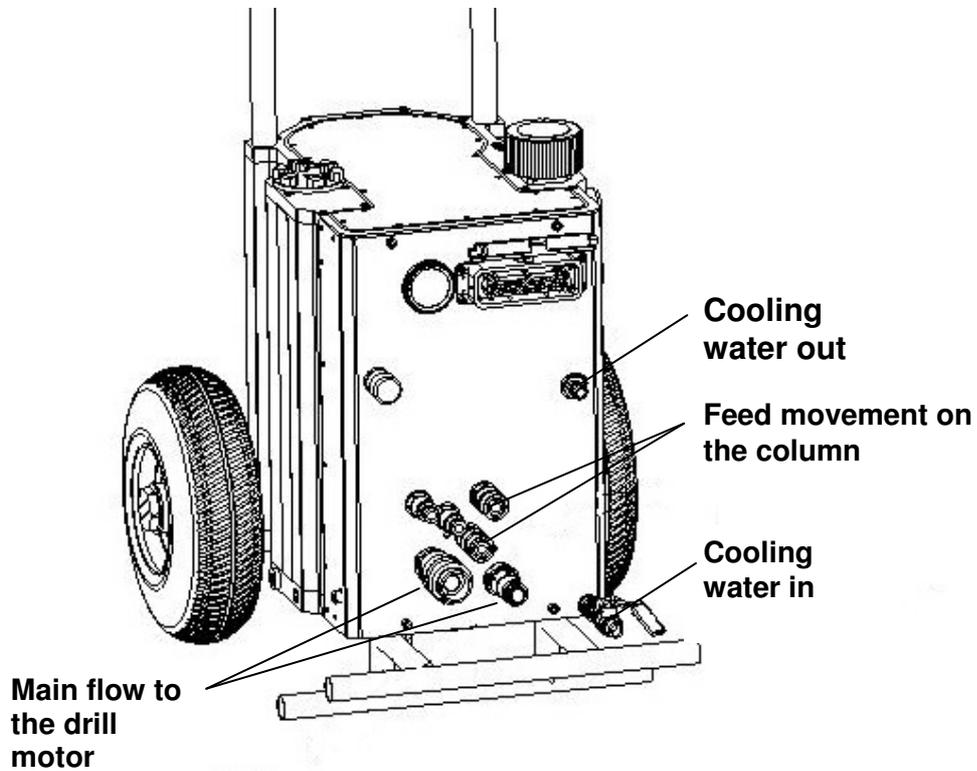
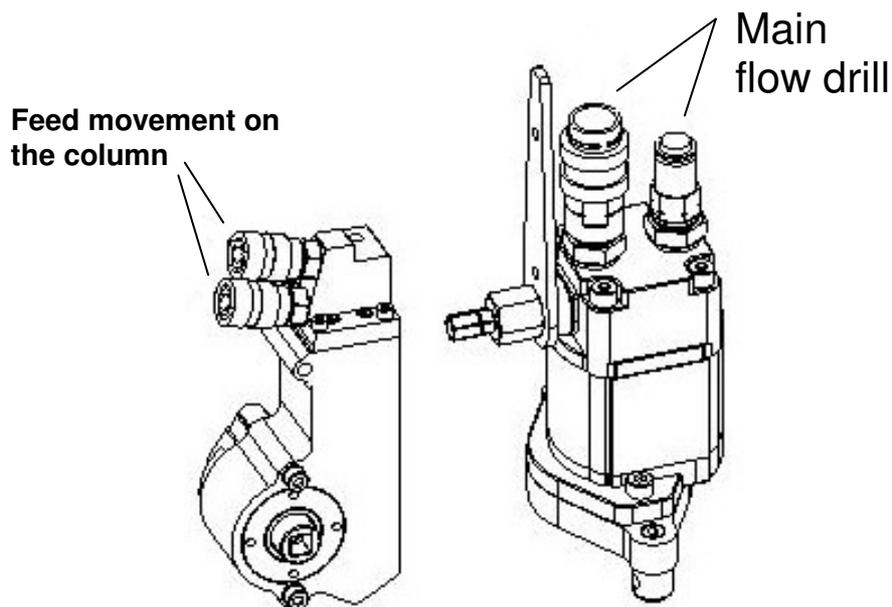
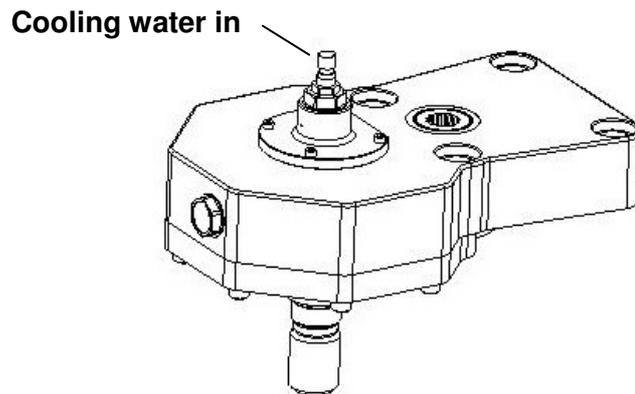

Fig. 14. Connections on the power pack Pentpak 15.
Fig. 15. Connections on hydraulic feed unit-HD and motor-HR.
Fig. 16. Coupling for cooling water on Spindle unit - ST2.
1. Connect the two 5/8" / 3/4" hydraulic hoses to the Male and female 1/2" or 3/4" couplings on the hydraulic motor (see fig. 15) and on the power pack see fig. 14).
2. *Connect the two 1/4" hydraulic hoses to the couplings 1/4" on the hydraulic feed unit (see fig.15) and the power pack (see fig. 14).*
1. Connect the water hose between the power pack (see fig. 14) and spindle unit (see fig. 16).
2. Connect the water hose between the power pack and (see fig.14) och water post (not delivered by Tractive).
Tools: Use only those tools that are intended to be used to operate the machine: Kuckle bar 400 mm 1/2" (see fig. 14) and an extension 1/2" L = 125mm (not shown in the picture. 15 mm wrench to adjust carriage rollers.